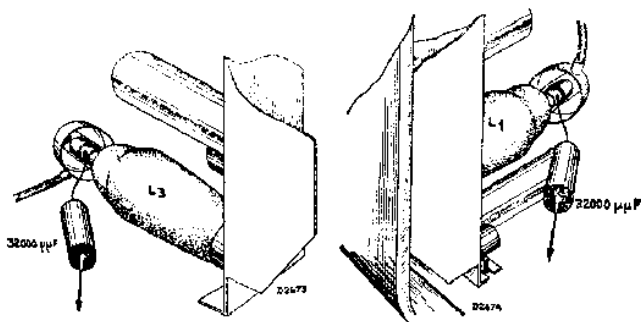
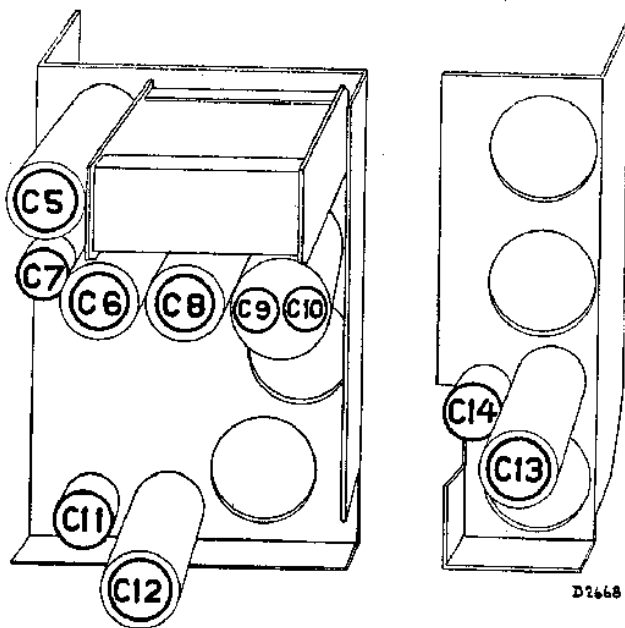

Fig. 2.
Fig. 4.
4. Apply modulated 128 K.C. signal through a 32,000 μ F (Fig. 2) to the control grid of L3.
5. Trim C13 and then C14 (Fig. 4) for maximum output.
7. Apply modulated signal of 128 K.C. via 32,000 μ F to grid 1 of L1 (Fig. 2) and trim C12 (Fig. 4) for maximum output.
5. Trim C9, C8, C6, C8, C9 (Fig. 4) for maximum output.